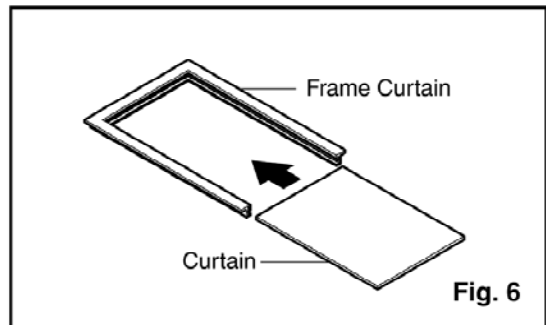

Fig. 6
8. Slide Curtain into Curtain Frame. Slide Curtain Frame assembly into side Guides of the Air Conditioner cabinet. Make sure Curtain is firmly enclosed on all sides by the Frame. (Fig. 6)